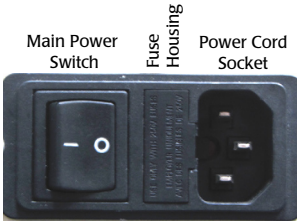

Fig. 5—Unplug the power cord to access the fuse housing release.
The instrument contains one fuse, located in the fuse holder on the back panel. If necessary, replace the fuse with the type and rating specified on the back panel. Verify that the fuse contained in the fuse holder matches the desired line voltage. A (Fig. 5).
1. Turn the main power switch off (I).
2. Unplug the power cord from the power cord socket on the back of the unit (Fig. 5).